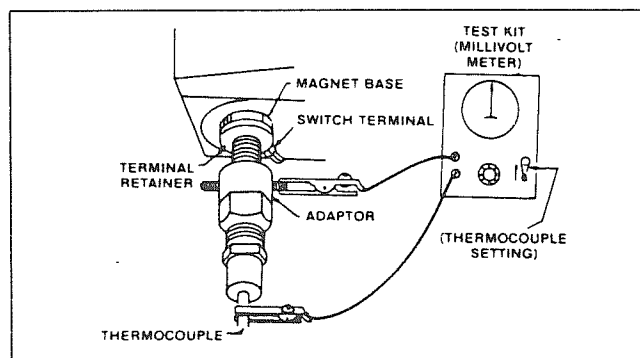

Fig. 2
- B. Connect Adaptor No. 75036 and Test Kit as shown in Fig. 2, being sure connections are tight.
4. With adaptor connected as in Fig. 2, check as follows: